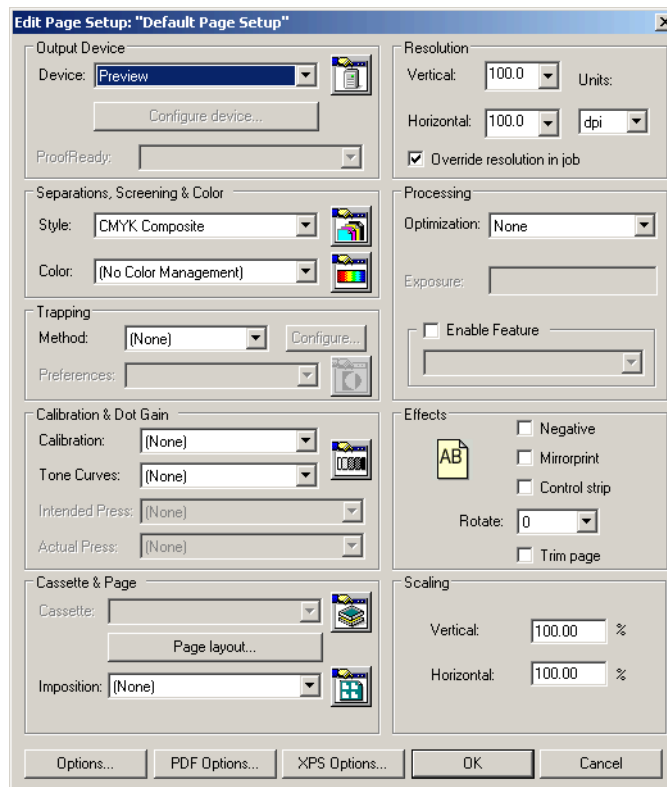

Figure 6 Page Setup dialog
2. In the Page Setup Manger, click New to create a new page setup (or Edit to amend an existing page setup), to open the New/Edit Page Setup dialog (Figure 6).